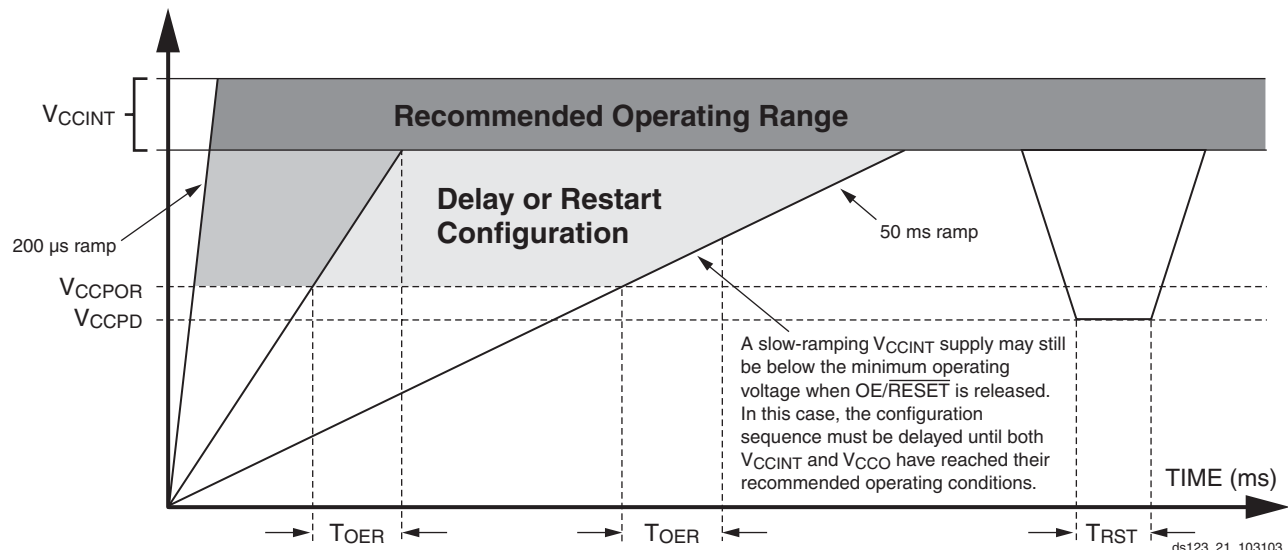

Figure 6: Platform Flash PROM Power-Up Requirements
below the power-down threshold (V_{CCPD}), the PROM resets and $\overline{OE}/\overline{RESET}$ is again held Low until the after the POR threshold is reached. $\overline{OE}/\overline{RESET}$ polarity is not programmable. These power-up requirements are shown graphically in Figure 6.
- At power up, the device requires the V_{CCINT} power supply to monotonically rise to the nominal operating voltage within the specified T_{VCC} rise time. If the power supply cannot meet this requirement, then the device might not perform power-on-reset properly. See Figure 6, page 11.